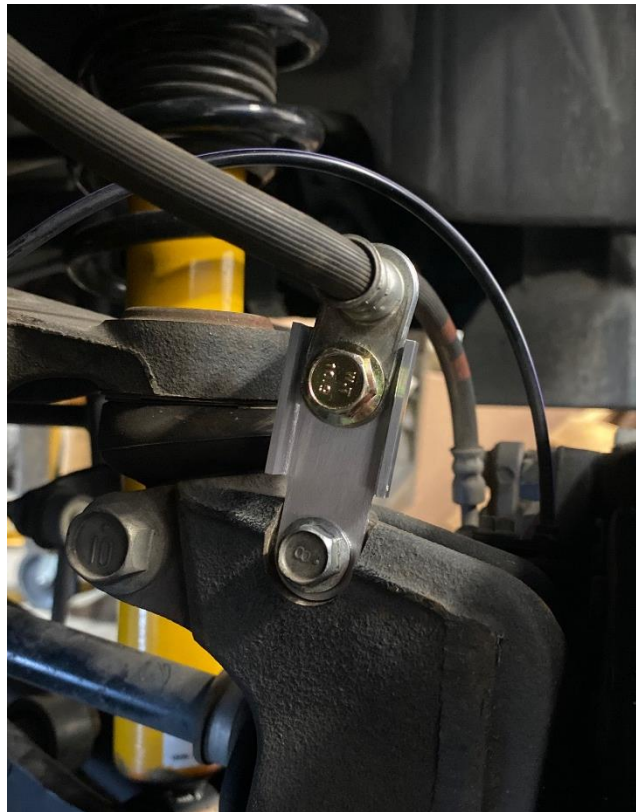

Figure 3
- N. Apply non-permanent thread locker to the OE flange bolt and use it to install the rounded end of the supplied Bilstein brake line relocation bracket to the spindle. Make sure to orient the relocation bracket so the bent flanges are pointing towards the front of the vehicle as shown below in Figure 3.
- O. Attach the brake line to the front side of the relocation bracket so it is in between the two bent flanges (to prevent rotation). Use the supplied Bilstein M8 flange bolt and nut to secure the brake line to the relocation bracket as shown below in Figure 3.